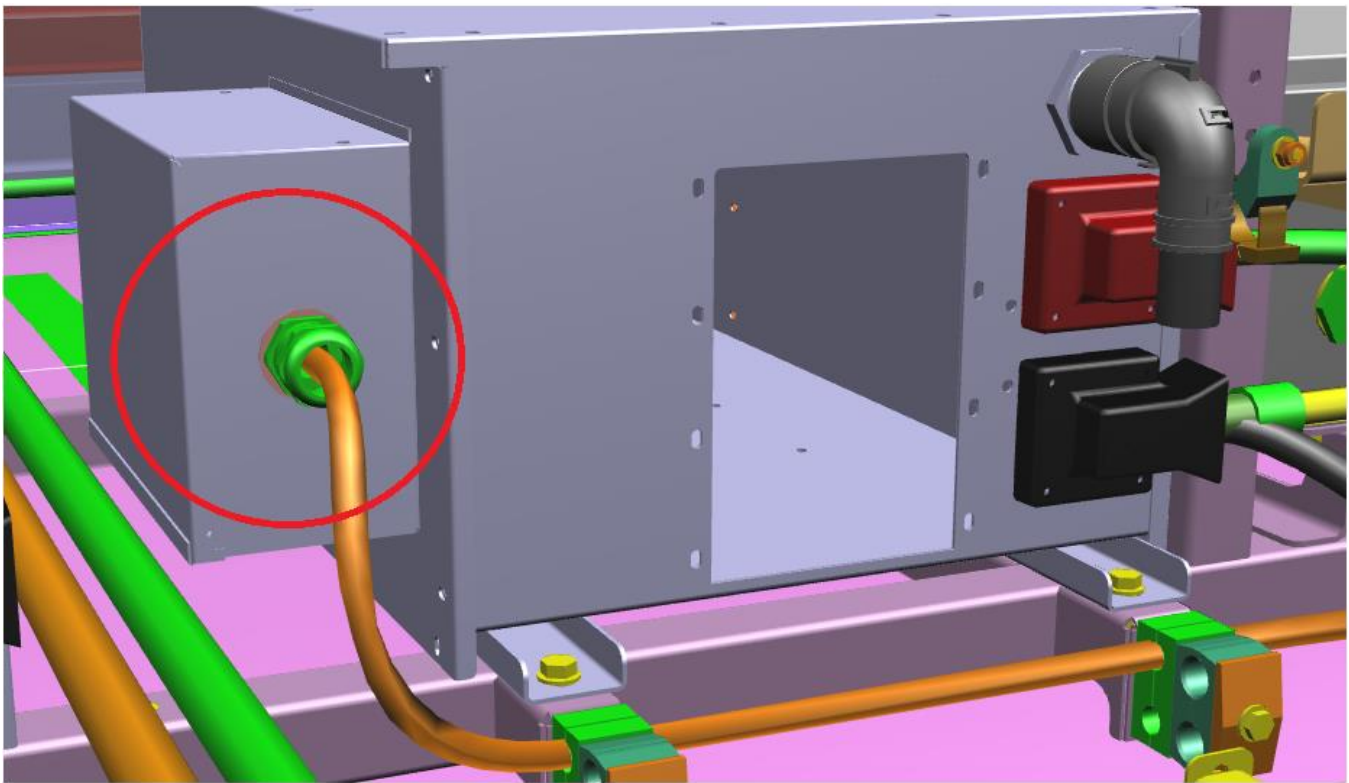
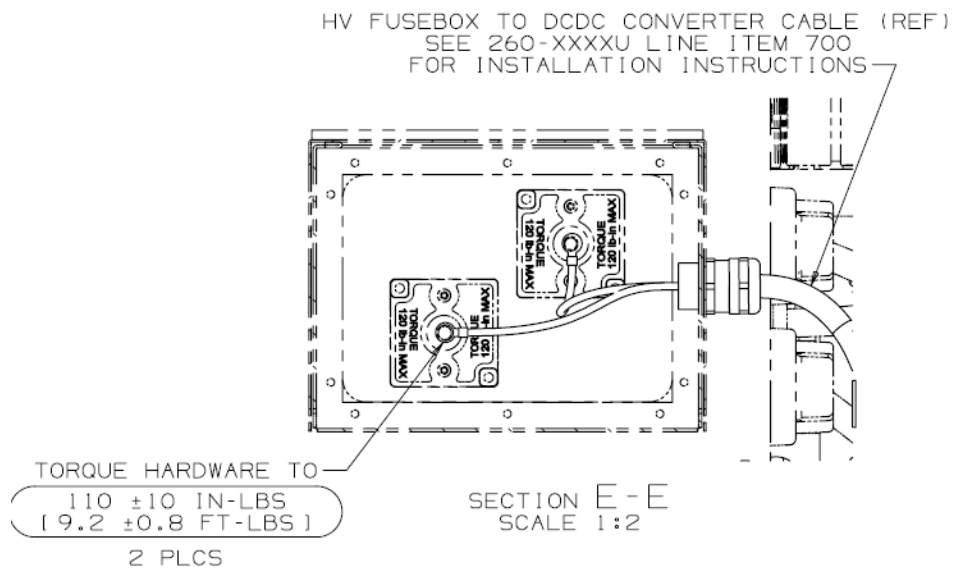

Figure 16: HV Fuse Box DC/DC converter cables Converter side
Figure 17: HV Fuse Box DC/DC Converter Cable Converter Side
66. Locate HV Fuse Box to DC/DC converter cables circled in Figure 16 and detailed in Figure 17.